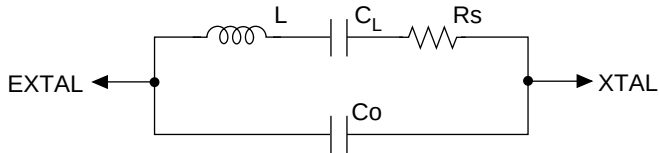

**Figure 4.3 Crystal Oscillator Equivalent Circuit**
**Crystal Oscillator:** Figure 4.3 shows an equivalent circuit of the crystal oscillator. Use a crystal oscillator with the characteristics listed in table 4.2.